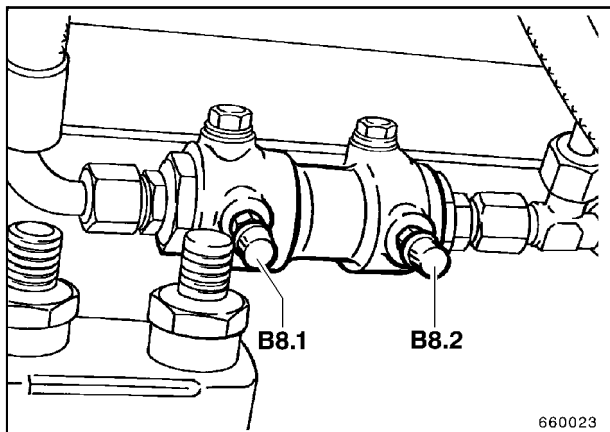

Fig. 13
- Vent (B8, Part 2, Fig. 13) at connecting valve (on brake side).